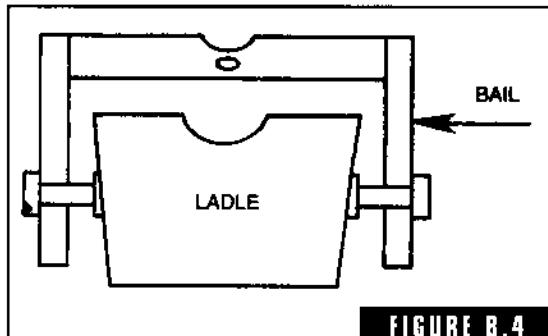

FIGURE B.4
**bail** The hoop connection between a ladle and crane hook (Fig. B-4).